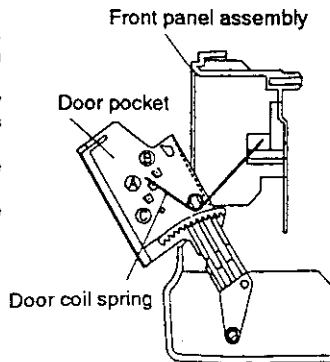
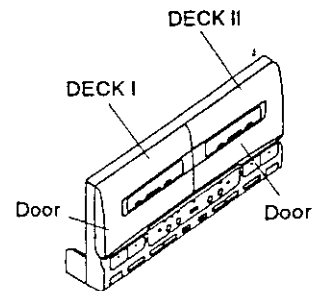

Fig. 8-2
Fig. 8-3
1. Mount the door coil spring on the position ④ as shown in Fig. 8-2, and then upright the front panel assembly as shown in Fig. 8-3.
- When DECK I door moves more slowly than DECK II door, change the position of the DECK I door coil spring from ③ to ④.
- When DECK I door moves faster than DECK II door, change the position of the DECK II door coil spring from ④ to ③.